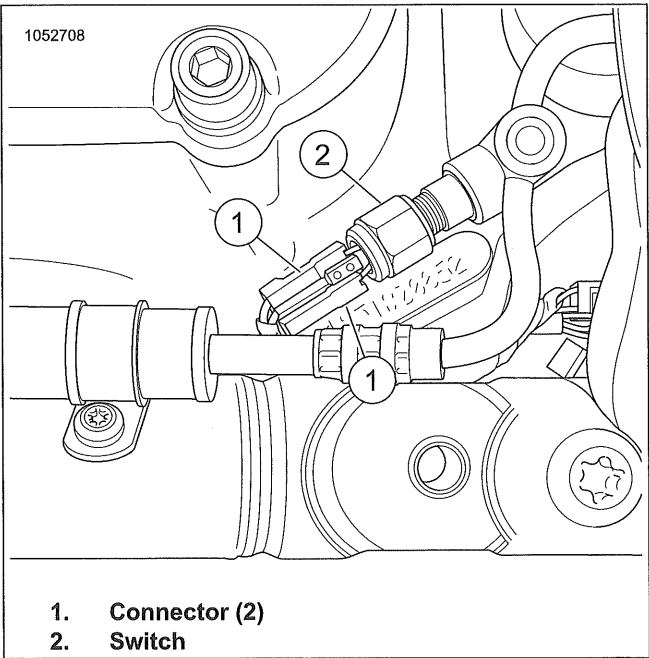

Figure 7-97. Rear Stop Lamp Switch
- 1. See Figure 7-97. Remove connectors (1).
- 2. Remove switch (2).
- 2. See Figure 7-97. Install switch (2). Tighten.